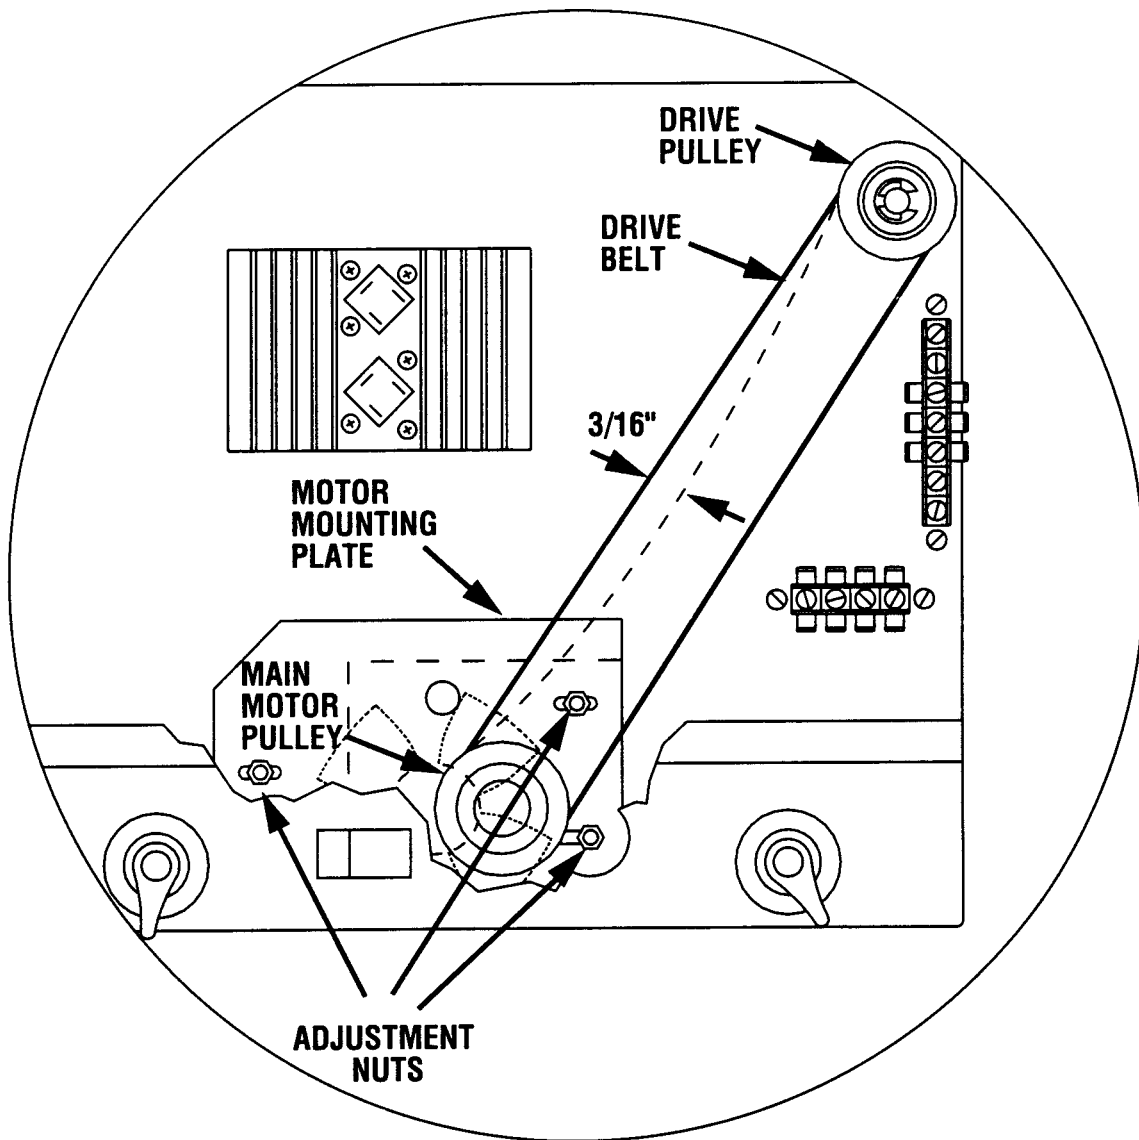

Figure 6
1. Using light finger pressure (approximately 1/2 lb. of force). Press one side of the drive belt at midspan. It should deflect approximately 3/16". (See Figure 6)